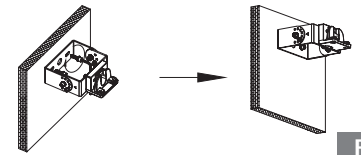

Figure 3
3. Attach the TR bracket to the mounting surface by tightening the screws with a wrench - Figure 3